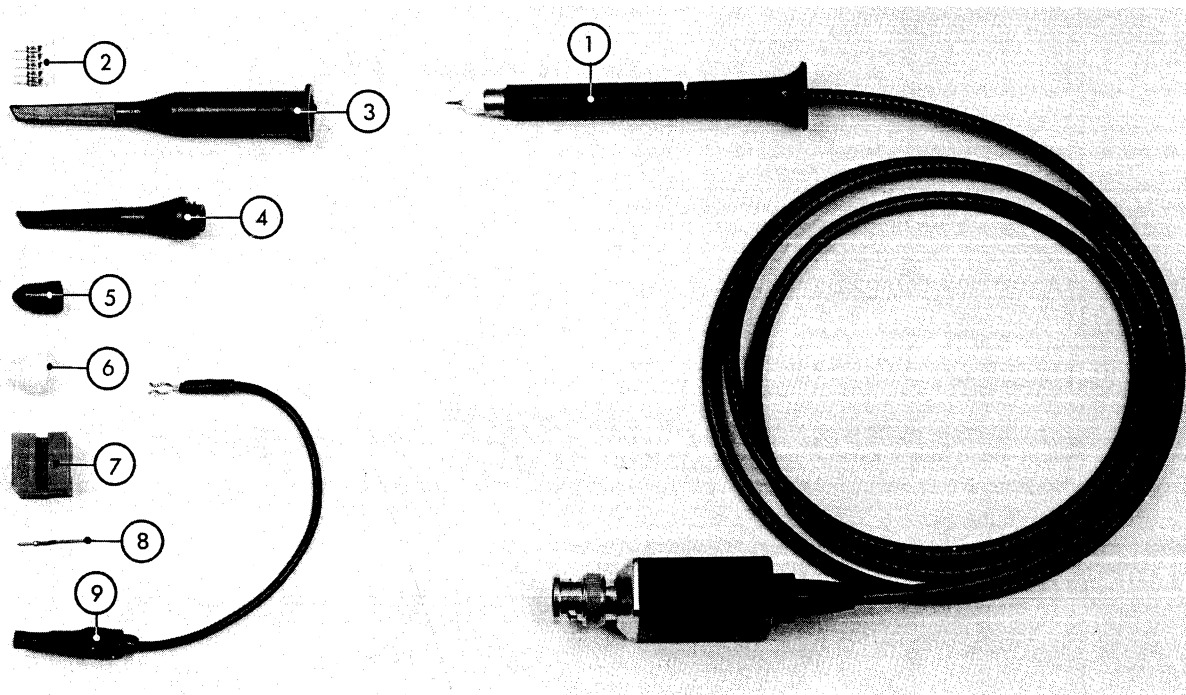

Fig. 3.29. Attenuator probe set PM 9358
1 probe assembly	Fig. 3.29. item 1
5 soldering terminals	Fig. 3.29. item 2
1 test hook	Fig. 3.29. item 3
1 spare test hook sleeve	Fig. 3.29. item 4
1 protective cap	Fig. 3.29. item 5
1 insulating cap	Fig. 3.29. item 6
1 probe holder	Fig. 3.29. item 7
2 spare test pins	Fig. 3.29. item 8
1 earthing cord	Fig. 3.29. item 9